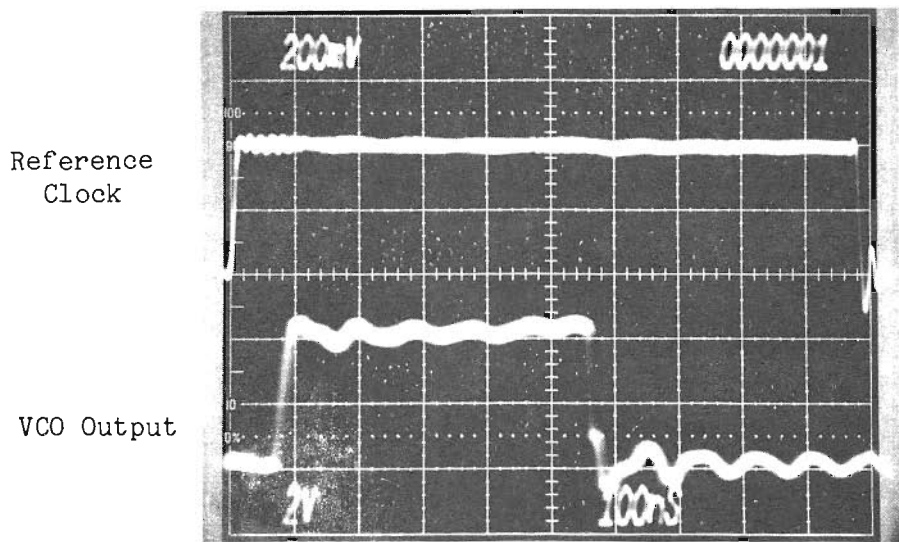
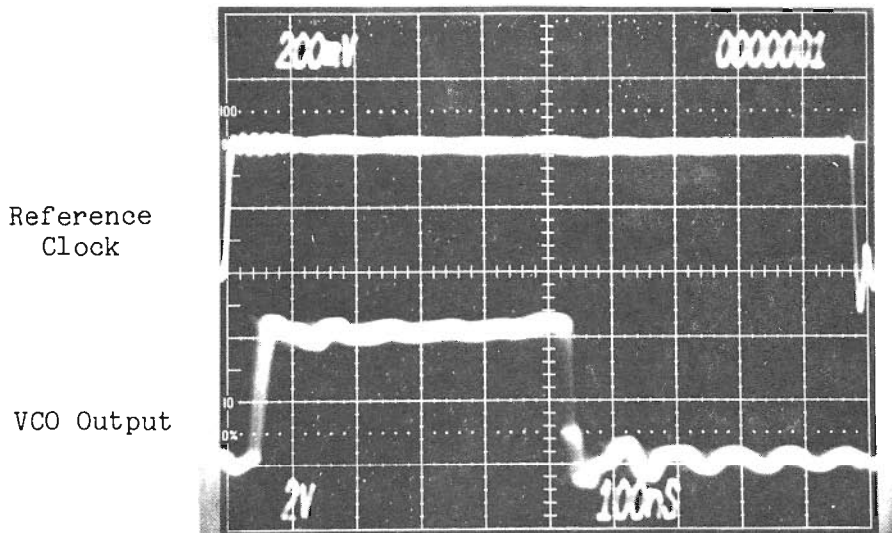
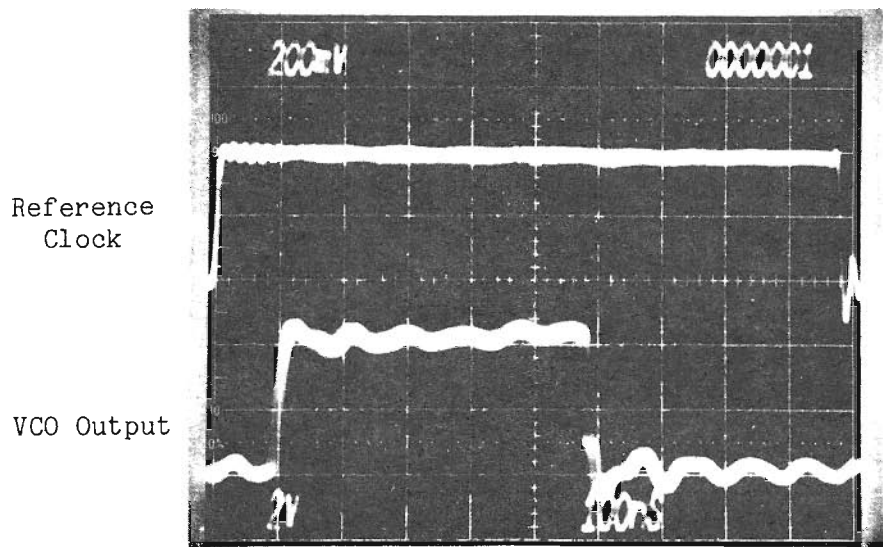

FIGURE 5 PLL CORRECTLY ADJUSTED FOR DISKETTE DRIVE
FIGURE 6 PLL INCORRECTLY ADJUSTED FOR DISKETTE DRIVE
FIGURE 7 PLL INCORRECTLY ADJUSTED FOR DISKETTE DRIVE
14. Slowly adjust potentiometer R8 (diskette drive adjustment) until the leading edge of the VCO output pulse (Channel 2) occurs 0.075 usec after the leading edge of the phase detector reference clock (ref: FIGURE 5). FIGURE 6 and FIGURE 7 show incorrect VCO output signals.